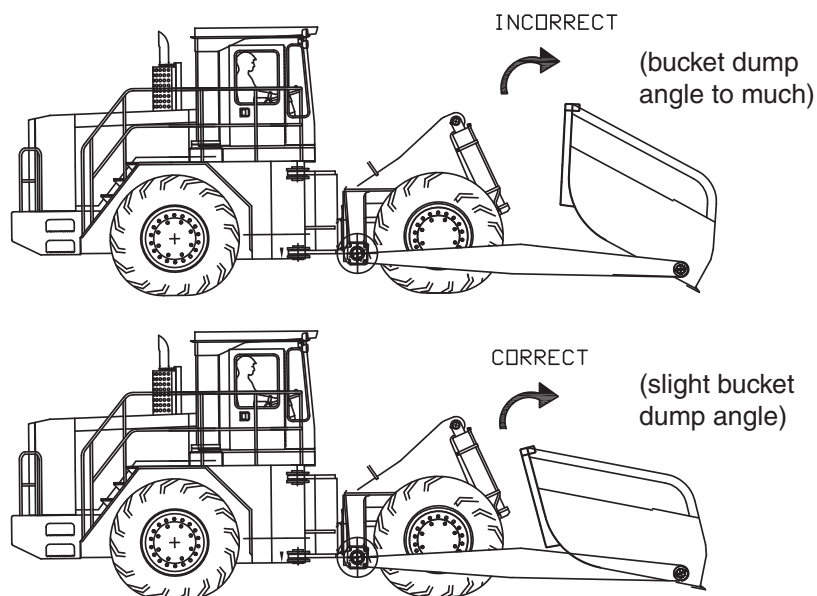

Figure 5-10
4. Tilt the bucket slightly forward to increase the cut when working in compacted material. This will reduce the drag on the bottom of the bucket (See Figure 5-10).